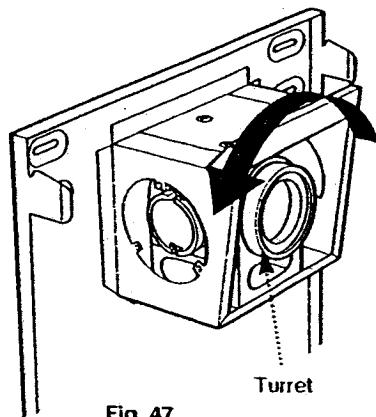
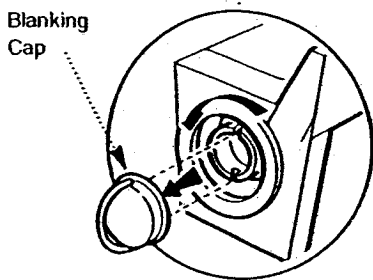

Fig. 47
Fig. 48
2. Rotate the turret to face the selected opening (Fig. 47) and remove the side blanking cap by pushing in and turning anti-clockwise to release the bayonet fitting (Fig. 48).